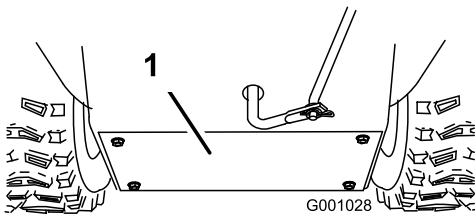

Figure 42
3. Remove the back cover (Figure 42).